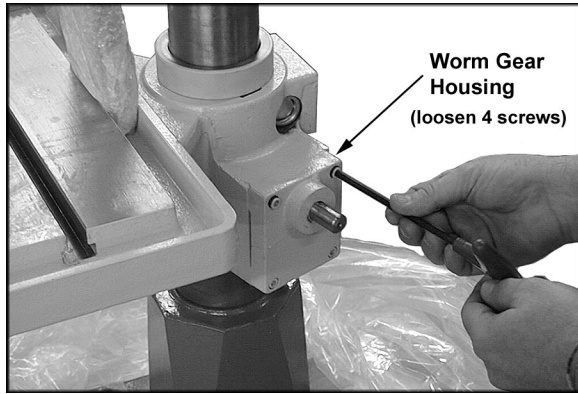

Figure 4
4. *Figure 4:* Loosen (do not remove) the four screws in the worm gear housing.
7. Tighten the four screws in the worm gear housing (shown in *Figure 4*).